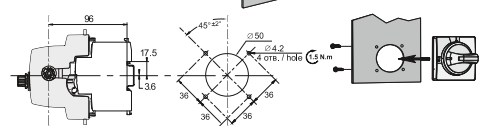

Рисунок 12 – Функция Блокировка / Figure 12 – Interlock function
- Interlock. The Interlock function allows users to secure the disengaged and engaged positions of the rotary handle to prevent unauthorized activation or deactivation of the unit. To activate the Interlock, pull the specialized white flag on the handle to engage the on/off interlock, and then mount the padlock (see figure 12);